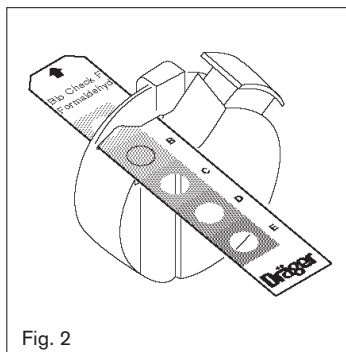

Fig. 2
b) Search for sources of formaldehyde Fig. 2
- Slide the colour code through the slit (Fig. 2) and compare the colour intensity of the indicator with the shades of the colour code. Establish colour value of identical intensity.